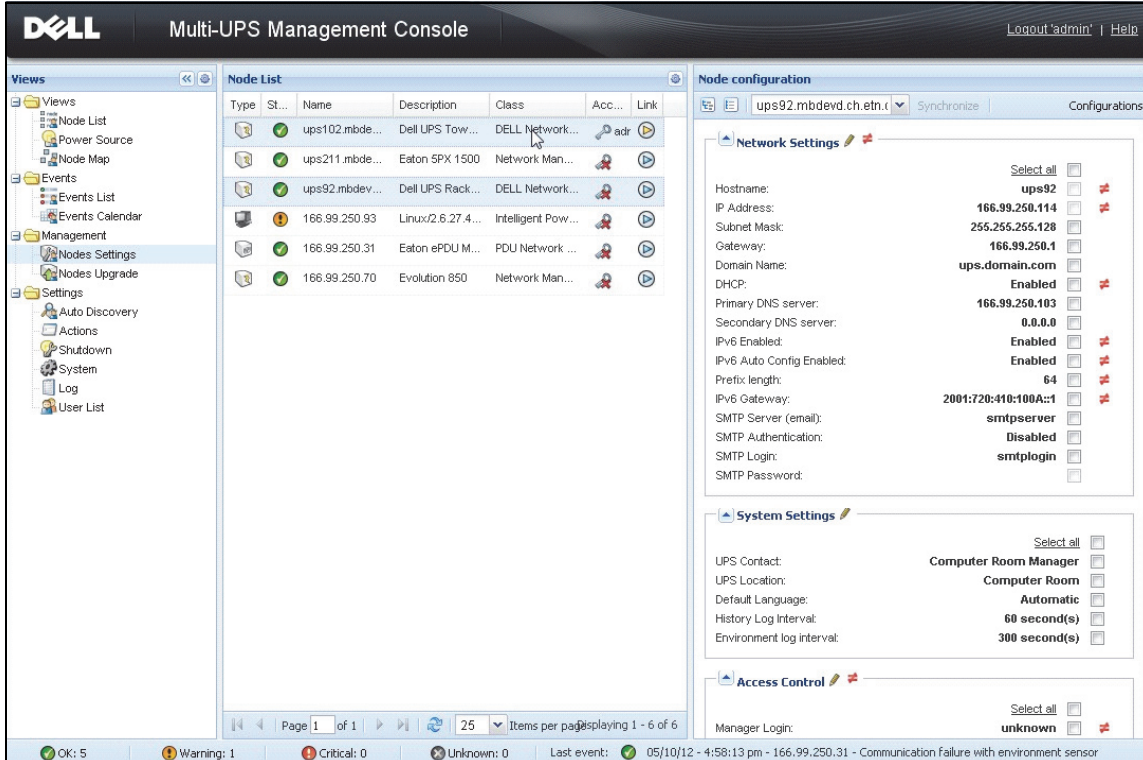

Figure 57. NMC Mass Configuration
- 1 From **Management > Nodes Settings**, select several cards from the Node List page using a “ctrl-and-click” action (see Figure 57).